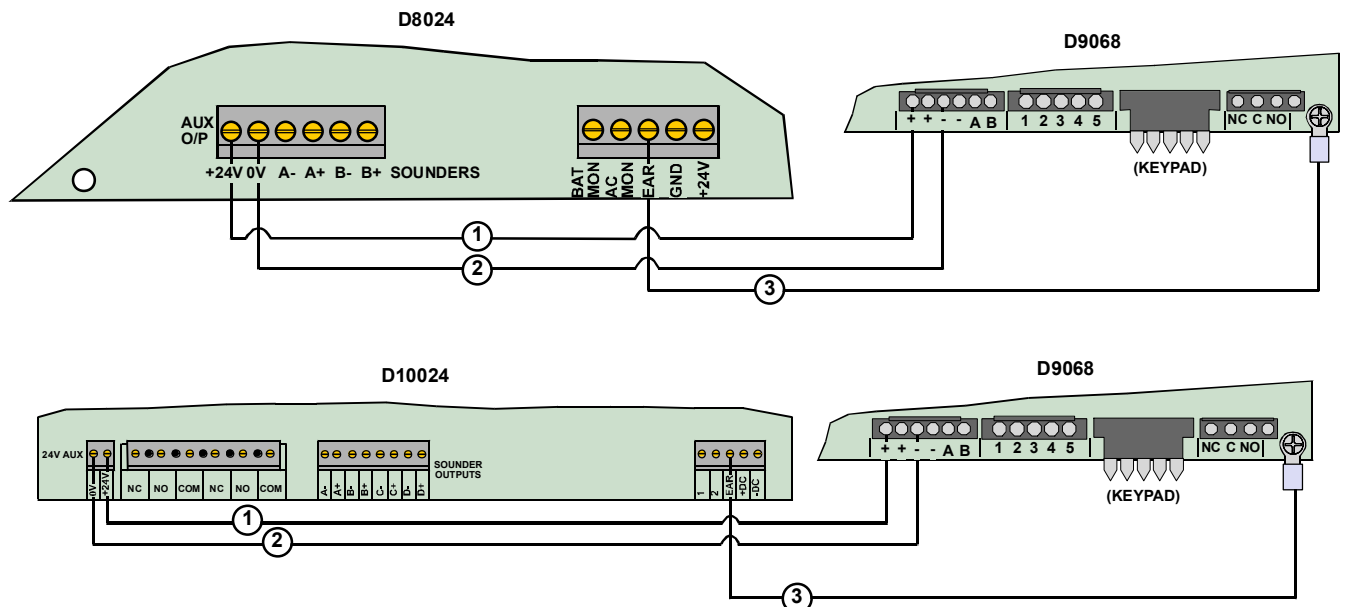

Figure 1: D9068-D8024/D10024 Power Connections
- 1) Connect the D9068's Power (+) terminal to the FACP's +24 V Auxiliary power terminal. See Figure 1.
- 2) Connect the D9068's Power (-) terminal to the FACP's 0 V Auxiliary power terminal. See Figure 1.